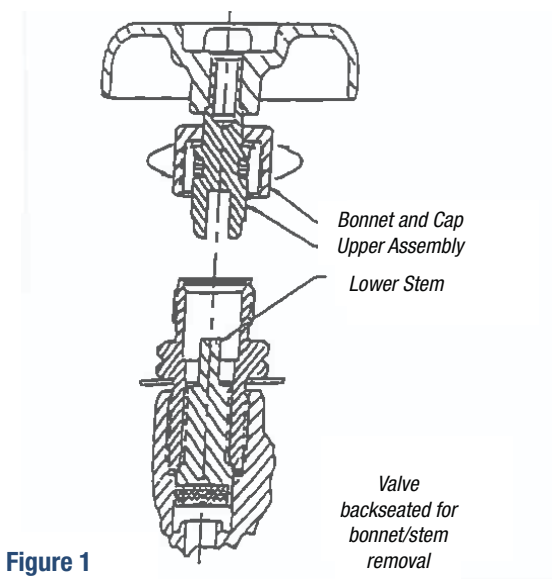

Figure 1
2. Hold the lower portion of the dual bonnet in place with a ¾" end wrench. Without turning the handwheel, use a second 1½" end wrench to remove the upper stem assembly by turning the bonnet cap counterclockwise (see Fig. 1). Destroy the old assembly so it cannot be reused.